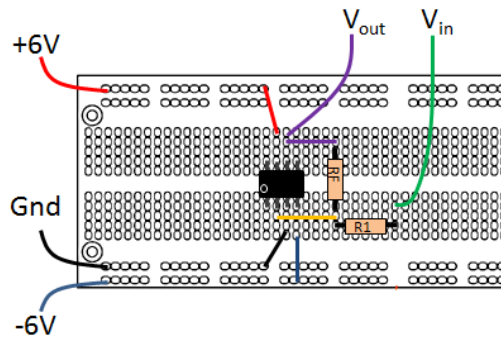

Fig. 4. Inverting amplifier circuit.
- (a) **Choose resistor values** to provide an amplifier, based on the circuit topology in Fig. 4, with an input resistance of $1\text{ k}\Omega$ and gain of -100 .
- (b) **Get parts and construct circuit.** Obtain R_1 and R_2 from the parts bins. Measure the dc resistance of each resistor using the DMM. Record these values. Now with a proto-board assemble the following inverting amplifier circuit shown below in Fig. 4. Connect the SMUs as shown (same as used for open loop tests). Initially, do not include R_L . Remember to connect the 6-volt power supplies even though they are not shown in the schematic of Fig. 4.
- (a) **Build the non-inverting amplifier from Fig. 5a.** This can be done simply by swapping V_{in} and Gnd of the inverting amplifier in Fig. 4 (NOTE: Leave R_1 and R_2 connected to the IN- terminal of the op-amp, just connect V_{in} to IN+ and GND to R_1). Perform 2 sweeps. In the first, sweep SMU1's voltage from -100 mV to $+100\text{ mV}$ and read-back